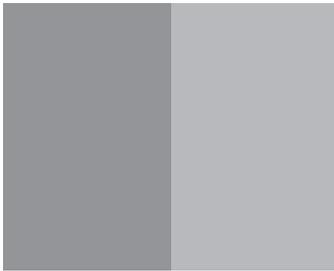

Figure 10. Images positioned properly in the horizontal direction using the R/L knobs (no gap or overlap in the center).
- Using the R/L knobs only, move each grey stripe left or right until you do not see any black stripes in the image and there is no overlap (bright stripe) in the center (**Figure 10**).